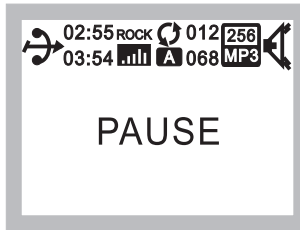

Fig. 8
(B) Press PLAY/PAUSE button  to pause track, Fig. 8: